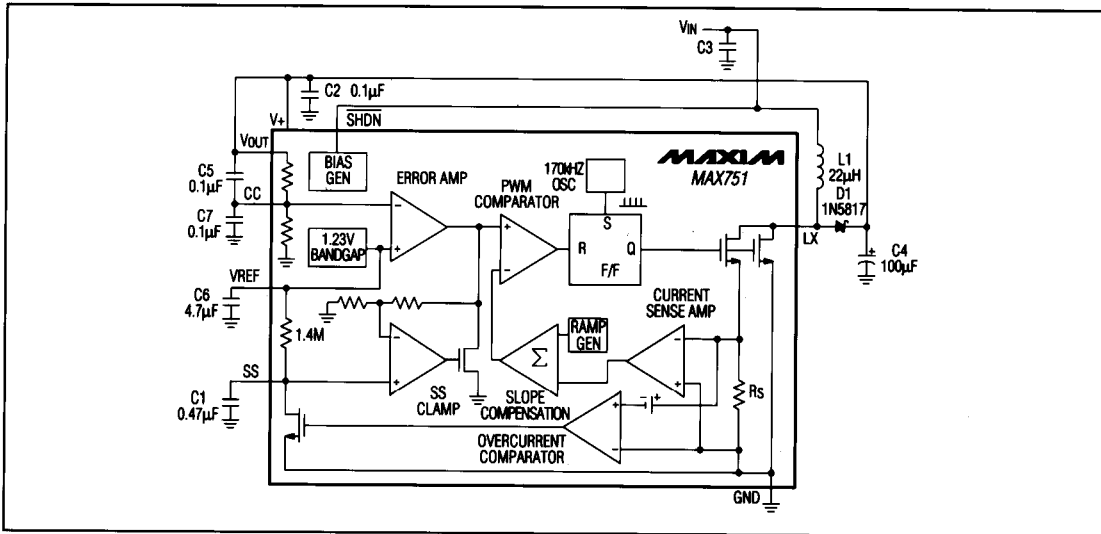

Figure 1. Detailed Block Diagram with External Components, Bootstrapped Mode
(Circuit of Figure 1, VIN = +3V, ILOAD = 0mA, TA = TMIN to TMAX, typical values are at TA = +25°C, unless otherwise noted.)
(Circuit of Figure 1 in bootstrapped mode,  $L_1 = 22\mu\text{H}$ ,  $T_A = +25^\circ\text{C}$ , unless otherwise noted.)
The controller consists of two feedback loops: an inner (current) loop that monitors the switch current through the current-sense resistor ( $R_S$ ) and amplifier, and an outer (voltage) loop that monitors the output voltage with an error amplifier (Figure 1). The inner loop performs cycle-by-cycle current limiting, truncating the power transistor on time when the switch current reaches a threshold determined by the outer loop. For example, a sagging output voltage produces an error signal that raises the threshold at the error amp output. This allows the inductor current (which generates the current-sense amp output voltage) to increase, resulting in more energy stored and transferred during each cycle.
The Soft-Start (SS) pin limits power-up current, allowing proper start-up with a load on the output. On power-up, the MAX751 uses the maximum switch duty cycle to draw excessive current to charge the output filter capacitor, and supply current to the load. In this case, the device may stall and the output voltage will not rise to 5V. A capacitor (between 0.047µF and 5µF) is required on SS to ensure proper start-up. The larger the capacitor, the slower the internal current-limit threshold is raised, allowing more time for start-up. As the voltage on the SS pin increases, the voltage at the SS clamp output increases, which in turn increases the current-limit threshold (Figure 1).
Use a Schottky diode with a continuous-current rating of at least 500mA for full-load ( $\geq 200$ mA) operation. The 1N5817 is a good choice. The two compensation capacitor values at the CC input are critical because they have been selected to provide the best transient response. The input capacitor (C3 in Figures 1, 2, and 4) may be omitted if the power supply impedance is very low. Otherwise, up to 100 $\mu$ F may be necessary.
The power-up SS charge rate is determined by the time constant formed by the SS capacitor and the internal  $1.4\text{M}\Omega \pm 25\%$  resistor between VREF and SS (Figure 1).